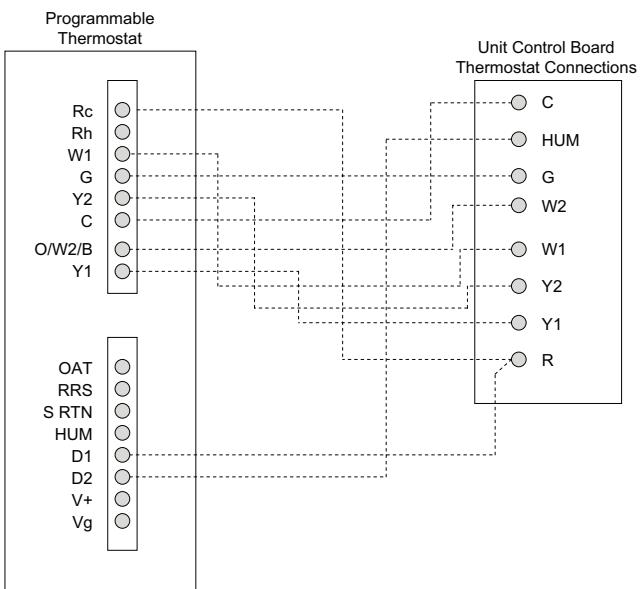

Fig. 43 — Typical Rooftop Unit with Humidi-MiZer® Adaptive Dehumidification System and Edge® Pro Thermidistat™ Device
3. The Thermidistat has dry contacts at terminals D1 and D2 for dehumidification operation (see Fig. 43). Connect D1 to the R terminal on the UCB. Connect D2 to the HUM terminal on the UCB. Refer to the installation instructions included with the Carrier Edge Pro Thermidistat device for more information.